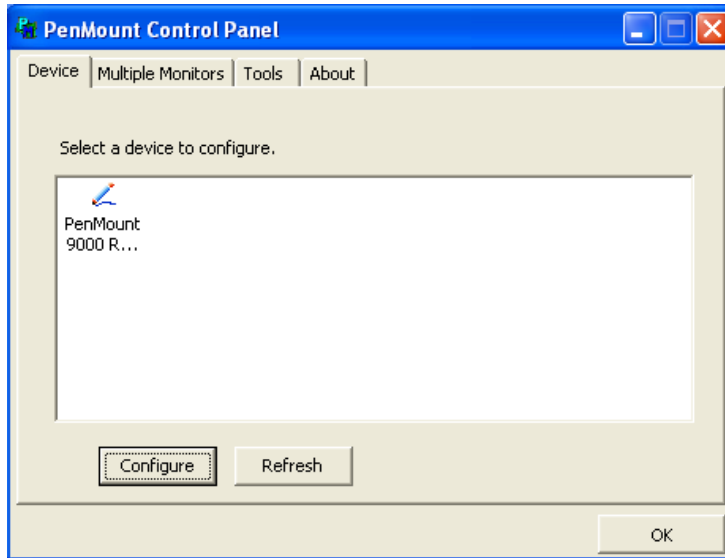

Figure 6-28: Configuration Screen
Step 5: The configuration screen in **Figure 6-28** appears.
Step 6: Double click the PenMount 9000 icon as shown in **Figure 6-28**.